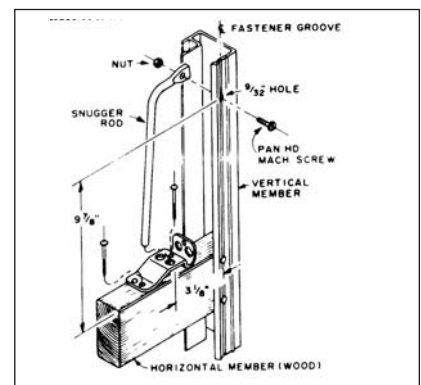

FIGURE 17
Select a horizontal door member that is at a convenient height and drill (1) $9/32$ " diameter hole in the vertical door member. Refer to **figure 17** for hole location.
Slip rod support on straight end of snigger rod and properly position assembly to determine proper location of rod support. Fasten rod support with 2 ring nails as shown. Slip the large link on the end of the chain over the snigger rod and insert snigger rod into the rod support. Secure the opposite end to vertical member using (1) $1/4$ " fastener and nut as shown. **See figure 17.**